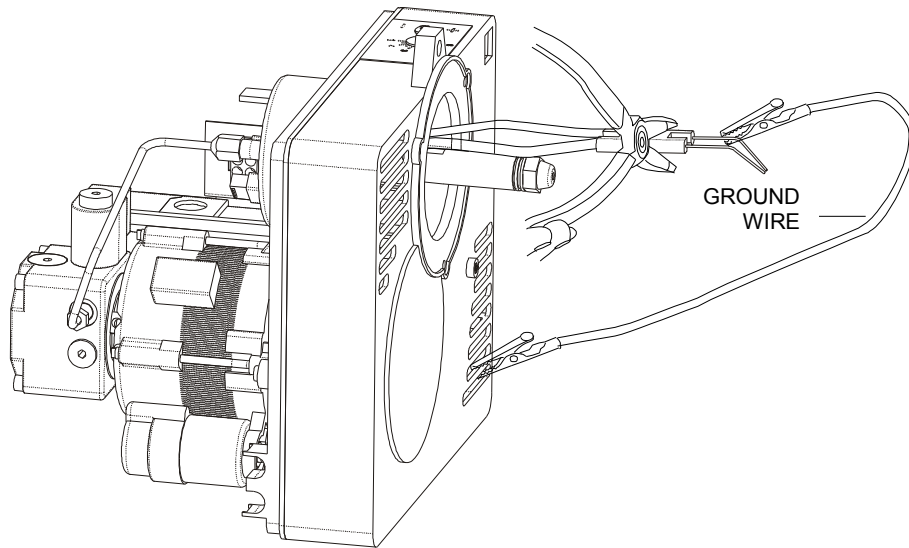

Figure 25 - Earthing connection of the electrodes.
11. Establish an earthing connection between the electrodes and the burner. To do this, connect an earth wire to the burner on one side and on the other side connect it to one of the electrodes (Fig. 25). Use insulated pliers and grasp the electrodes on the porcelain part. Only use pliers with rubber or plastic insulated handles.